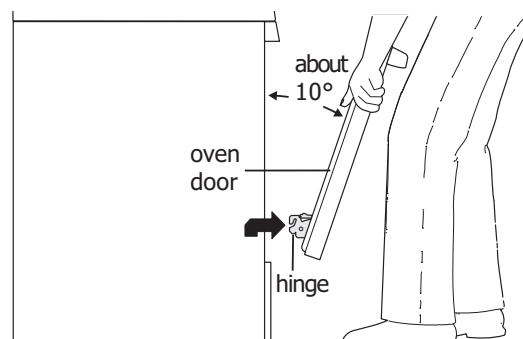
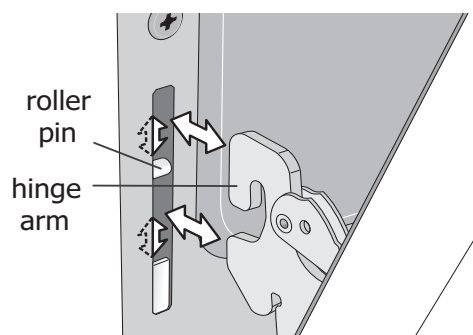

Figure 15: Holding door for removal
Figure 16: Location of hinge arm and roller pin
3. Firmly grasp both sides of oven door along the door sides. Do not use the oven door handle (See Figure 15).
5. Lift the oven door hinge arms over the roller pins located on each side of the oven frame (See Figure 15).
1. Firmly grasp both sides of oven door along the door sides. Do not use the oven door handle (See Figure 15).
2. Holding the oven door at the same angle as the removal position (See Figure 15), seat the hook of the hinge arm over the roller pins located on each side of the oven door frame (See Figure 16). The hook of the hinge arms must be fully seated onto the roller pins.